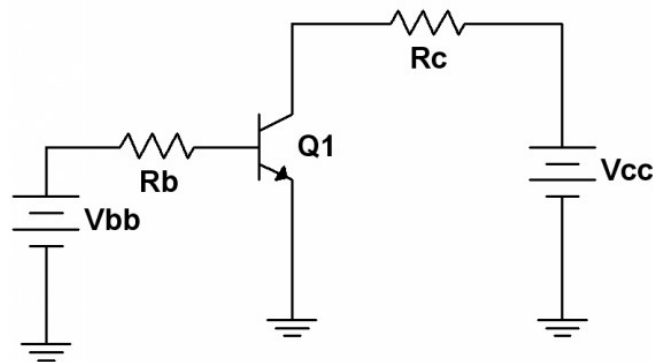

Figure 1
2. Consider the circuit of Figure 1 with $V_{bb} = 11\text{V}$, $V_{cc} = 15\text{V}$, $R_b = 330\text{ k}\Omega$ and $R_c = 1.2\text{ k}\Omega$. Assume $V_{BE} = 0.7\text{ volts}$. Further, assume that beta is 150 (a typical value for this device in this application). Calculate the expected values of I_B , I_C and I_E , and record them in the “Theory” columns of Table 1. Note that the theoretical values will be the same for all three transistors.
4. Build the circuit of Figure 1 with $V_{bb} = 11\text{V}$, $V_{cc} = 15\text{V}$, $R_b = 330\text{ k}\Omega$ and $R_c = 1.2\text{ k}\Omega$. Measure and record the base, collector and emitter currents, and record them in the first row of Table 1. Find the deviations between the theoretical and experimental currents, and record these in Table 1.
8. One way of improving the circuit of Figure 1 is to redesign it so that a single power supply may be used. As noted previously, the base current is largely dependent on the value of V_{BB} and R_B . If the supply is changed, the resistance can be changed by a similar factor in order to keep the base current constant. This is just an application of Ohm's law. Based on this, determine a new value for R_B that will produce the original I_B if V_{BB} is increased to the V_{CC} value (i.e., a single power supply is used). Record this value in Table 3.